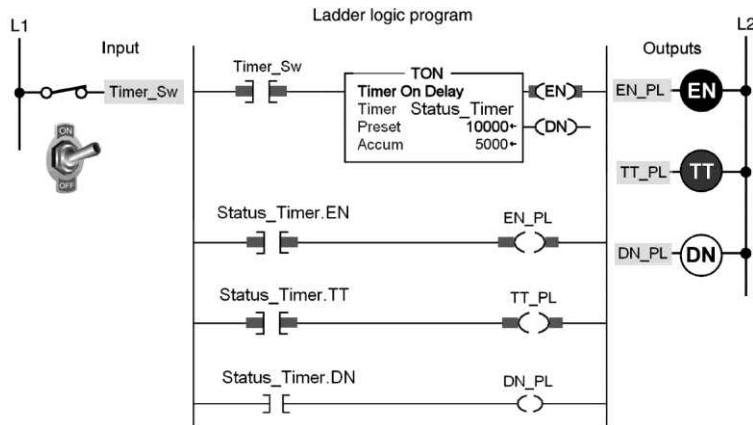

Figure 15-25 Ten-second TON timer program for assignment 1.
- 1) The 10-second TON timer program of Figure 15-25 is described in the text.